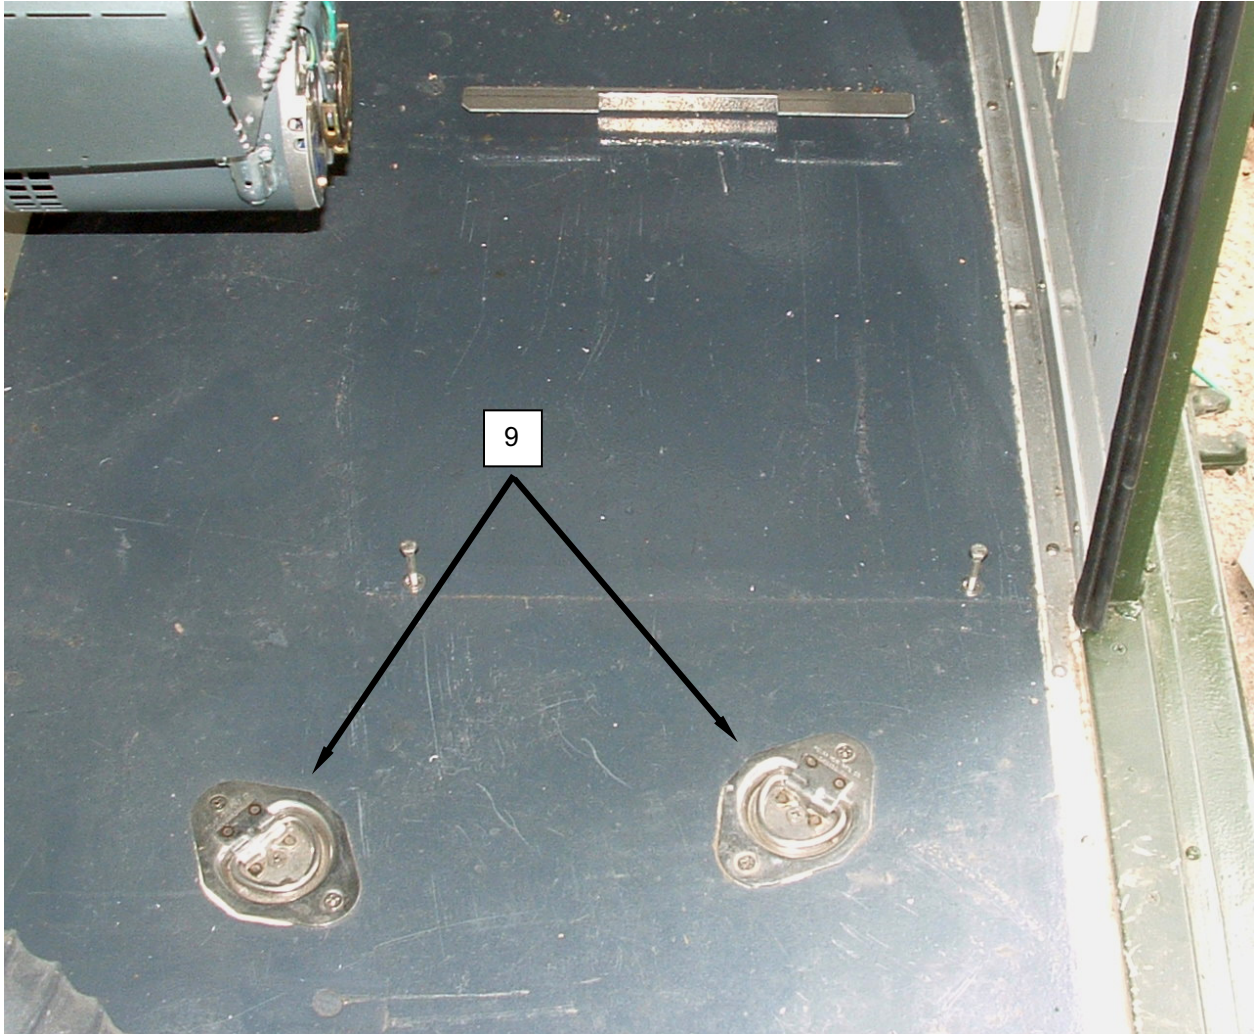

Figure 6. Replace Tiedown Provisions.
1. Remove screws retaining tiedown provision (**Figure 6, Item 9**) and remove tiedown provision.
2. Install replacement tiedown provision (**Figure 6, Item 9**) and retain with screws.